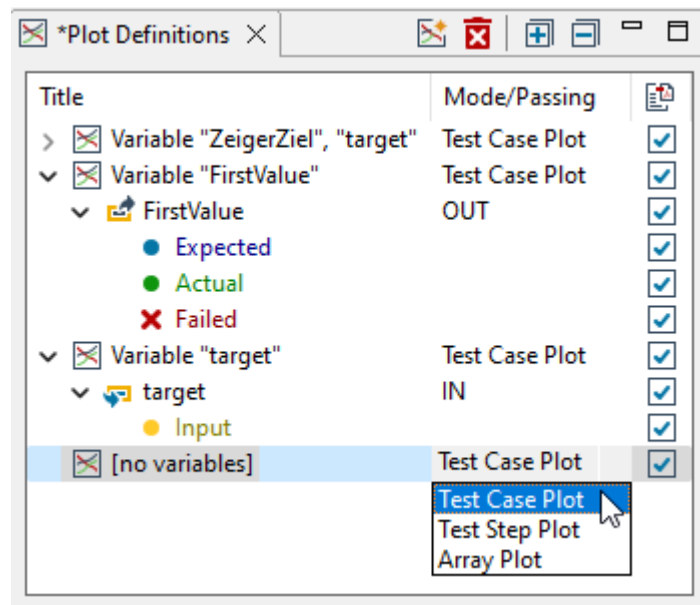

Figure 6.168: Plot Definitions menu
- Click on the newly created plot to choose the desired kind of plot (see figure 6.168).